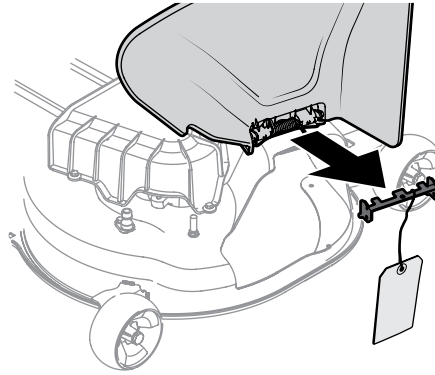

Figure 2-14
7. Holding the chute deflector fully upward, remove the shipping brace. Lower the chute deflector and discard the shipping brace. See Figure 2-14.